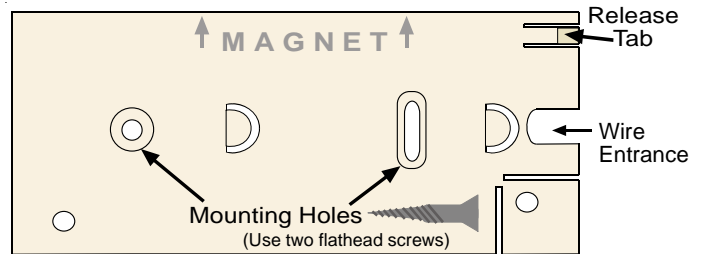

Figure 2 - Mounting Plate
- Position the Mounting Plate over the desired location. If connecting an external device, position the mounting plate so the wiring passes through the Wire Entrance (refer to Figure 2).
- Attach the Mounting Plate using the two flathead screws as shown in Figure 2.
- The Point Transmitter may be released from the base by disconnecting any external wiring, removing the security screw (if used), then pressing the Release Tab (refer to Figure 2) with a small tool and sliding the Point Transmitter off the Mounting Plate.